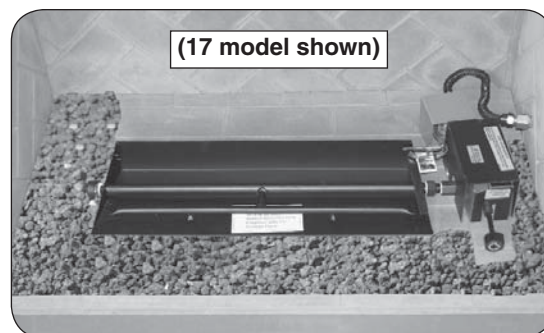

Fig. 20-2 Place lava media (if option purchased)
1. Spread the lava granules on the floor of the fireplace, around the front and sides of the burner system (see Fig. 20-2).